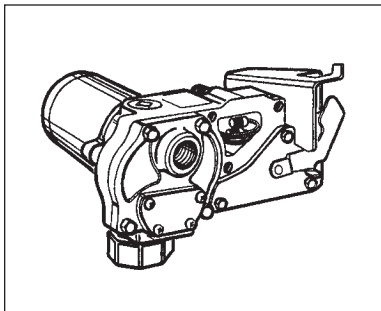

Figure 11
- Inspect the wiring connections and cavity. (Figure 11)